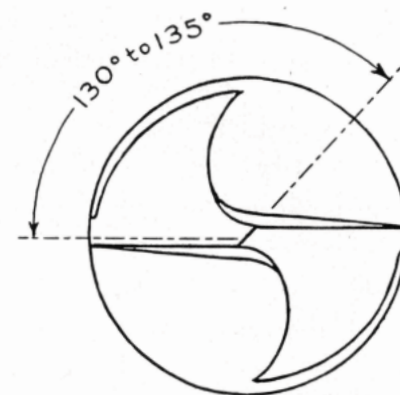

Figure 11—Web after point thinning
- After grinding the cutting edges, it may be necessary to thin the point or web (figure 11). If the width of the point is too great, excessive pressure will be required to start the drill and it will tend to rub rather than cut. On the other hand, if the point is too thin, there is a tendency for the web to split. Proper pointing diminishes the power required to feed the drill, enabling it to cut more freely.